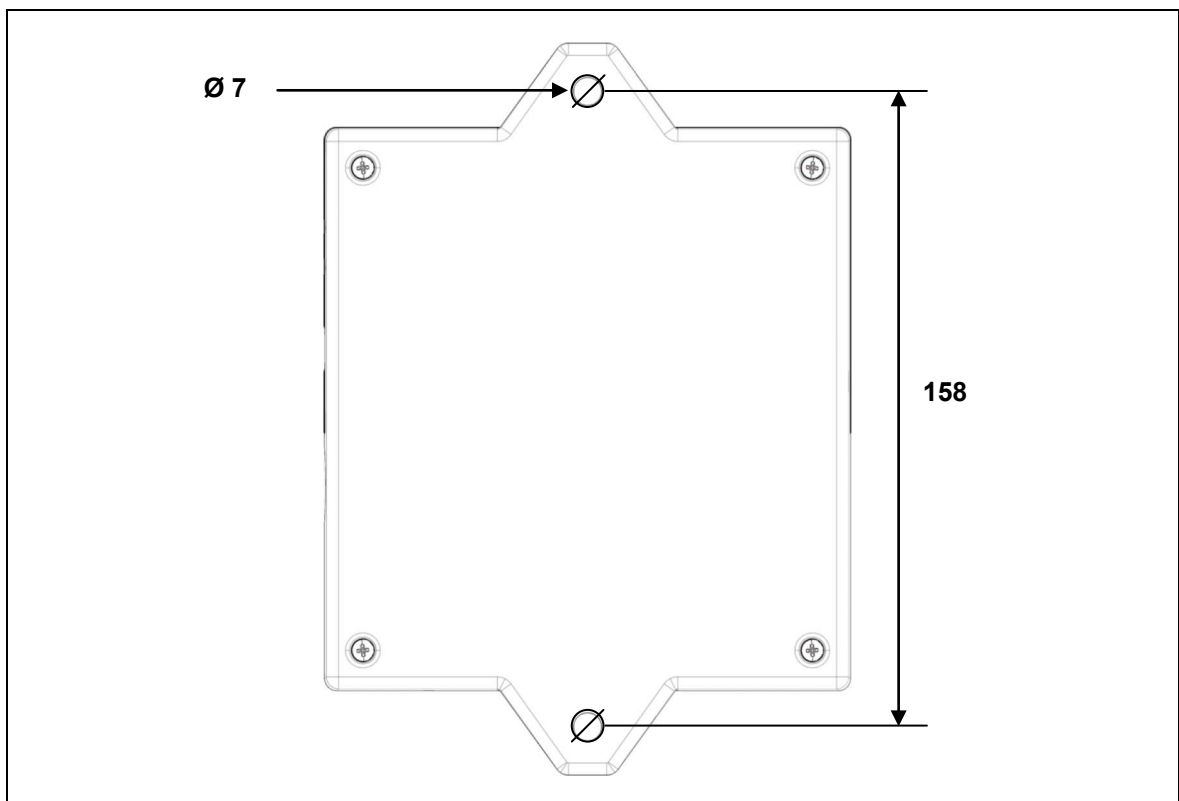
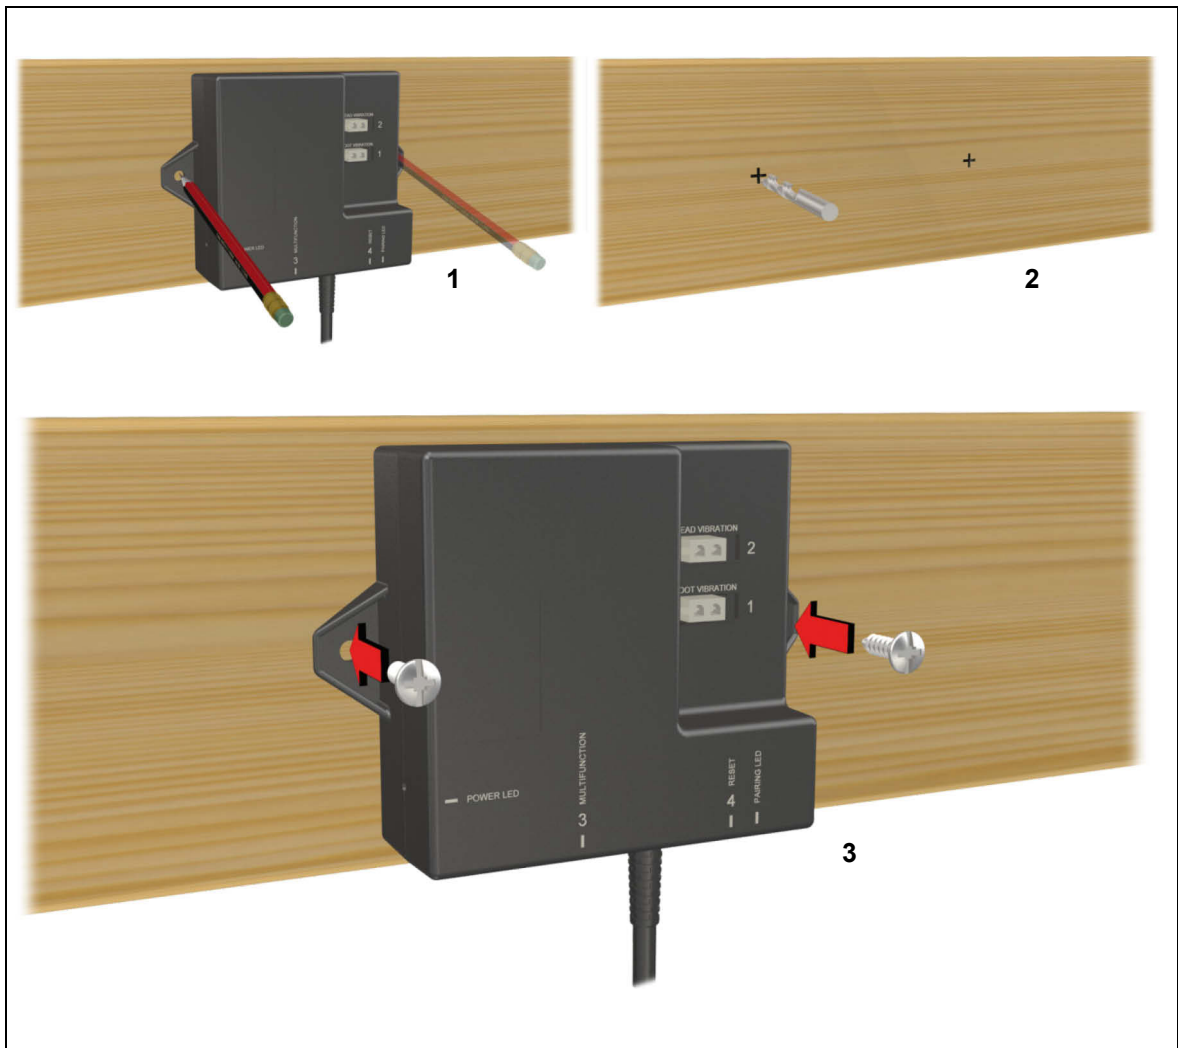

Figure 5 Drilling dimensions (example): Mounting points on the CONTROL UNIT HE200, (in mm)
Figure 6 Installing the CONTROL UNIT HE200
- ▶ The drilling dimensions shown in Figure 5 only illustrate an example and are not necessarily authoritative for all applications.
Screw the control unit onto the end product (as shown in Figure 6 ). Use the mounting holes shown in Figure 5 located on the control unit. Use screws meeting the requirements of DIN 7049 with 4.8 mm diameter and of suitable length (5 mm plus the screw-in depth into the end product).